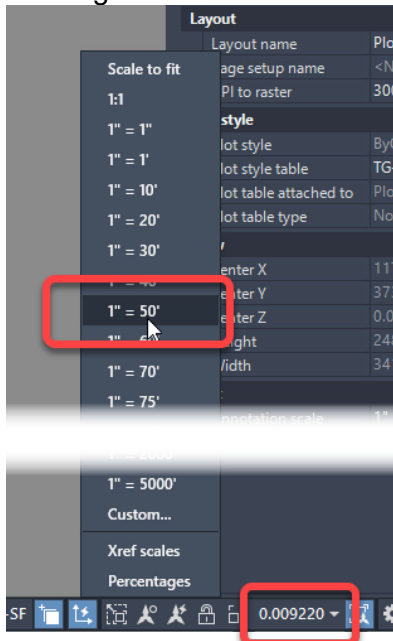

Figure 28: Setting the viewport scale.
1. Create and set the desired scale of your viewport (1/4" = 1'-0", 1" = 50', 1:50, etc.) as shown in Figure 28. The position or visible area of the viewport is not important at this stage.